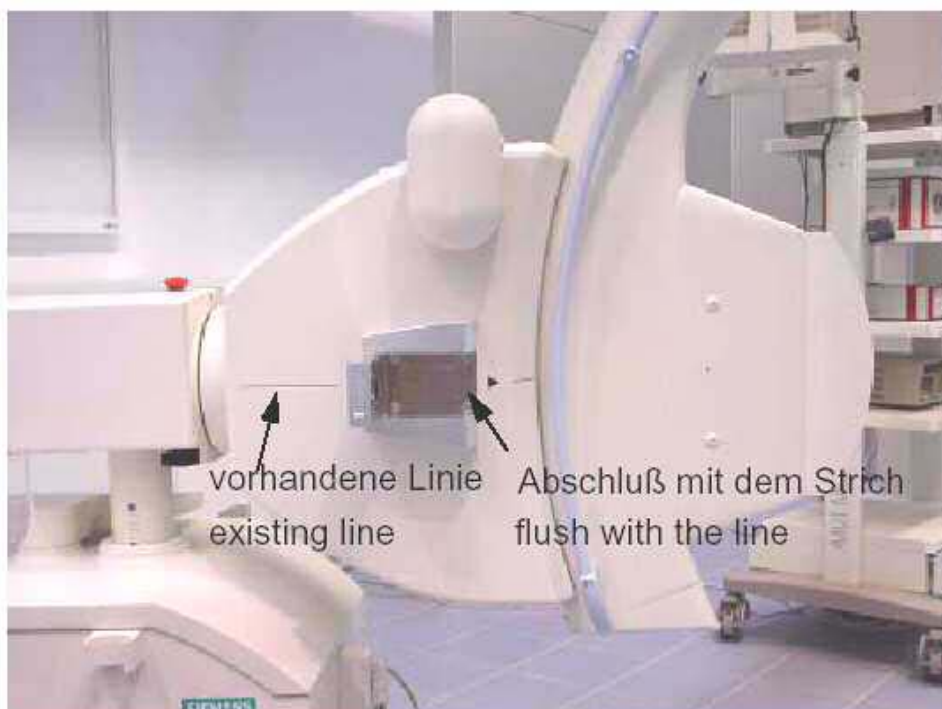

Fig. 5: Mark
- Secure the laser light localizer - as shown in figure (Fig. 5 / p. 10) - to the cable module cover; notches are provided in the laser light localizer for this purpose.